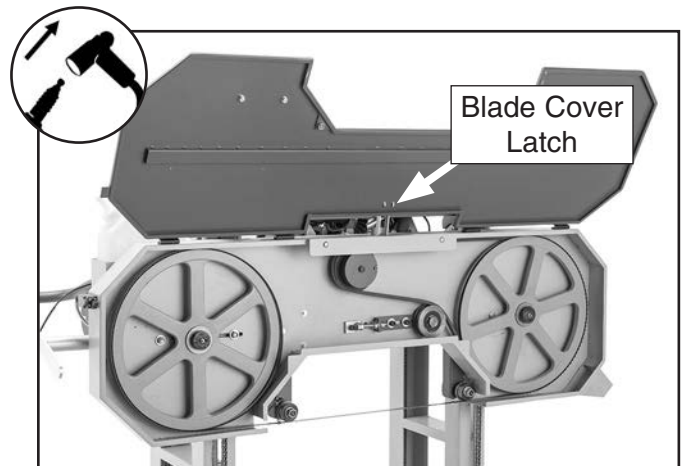

Figure 24. Blade cover supported by blade cover latch.
3. Open blade cover and support it on blade cover latch (see **Figure 24**).